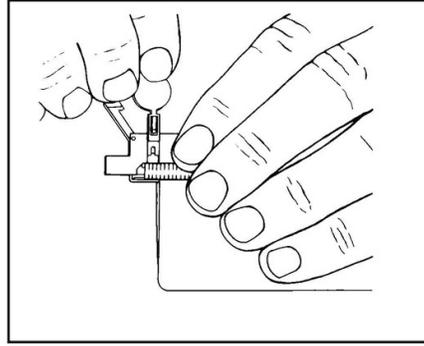

Figure 11
- a. Align the polarizing key with the plug connector slot. (Figure 11)